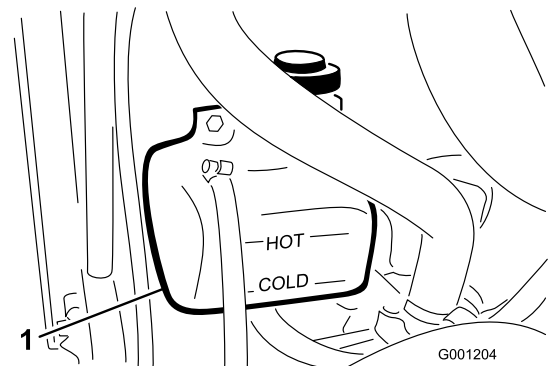

Figure 68
1. Check the level of the coolant in the expansion tank (Figure 68).